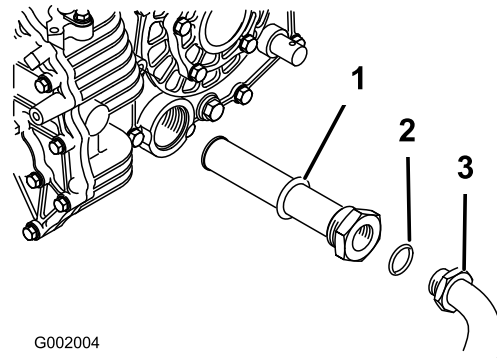

Figure 66
5. Remove the hydraulic hose and 90 degrees fitting (Figure 66).